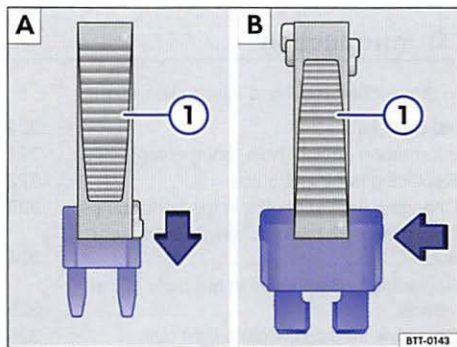

Fig. 168 Removing or inserting a fuse using the plastic tweezers.
- For *small fuses*, slide the tweezers ⇒ fig. 168 ① onto the fuse from the top **A**.